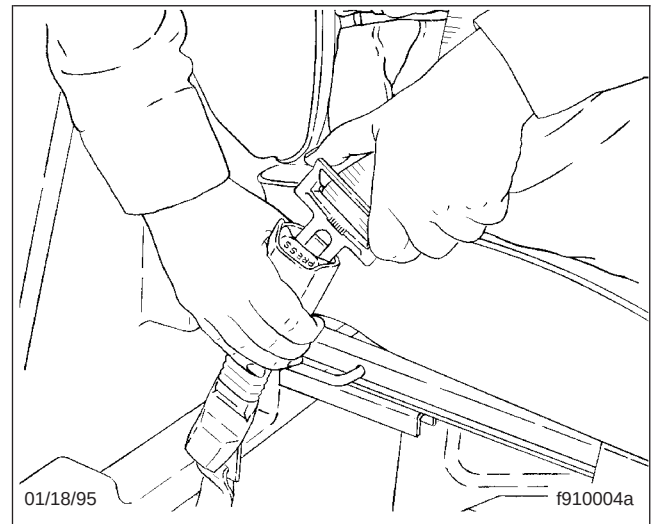

Fig. 5.7, Fastening the Three-Point Belt
2. Fasten the three-point seat belt by pushing the link into the buckle until it latches (Fig. 5.7). Give the belt a tug at the buckle. If the buckle unlatches, repeat this step. If the problem continues, replace the three-point seat belt.
2. Fasten the three-point seat belt by pushing the latch into the buckle. Listen for an audible click. See Fig. 5.7.